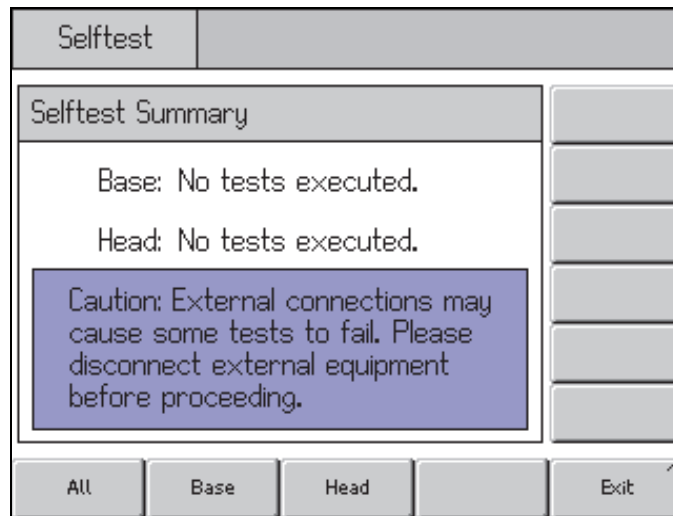

Figure 5-12. Select a Self-Test Sequence
4. Push the Self-Test softkey at the bottom of the display. The Self-Test screen is shown. See Figure 5-12.